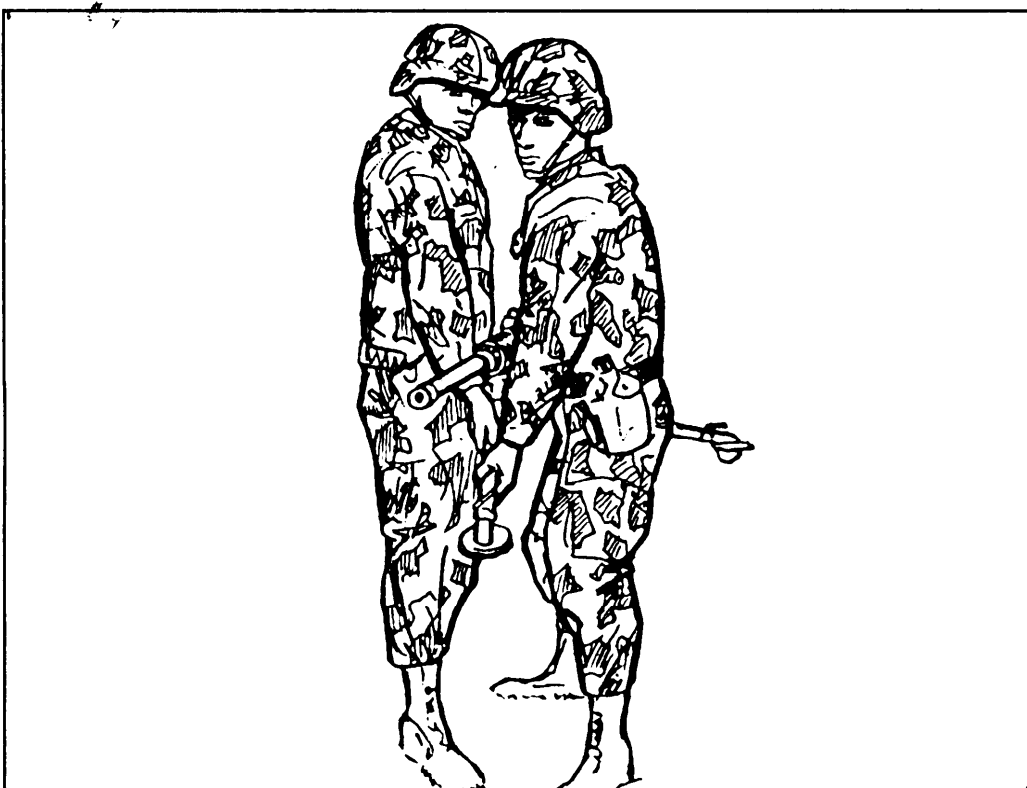

Figure 5-26. Two-man carry.
(2) *Two-man carry* With the gunner on the right and assistant gunner on the left, each grasps the front leg with his forward hand and a trail leg with the other hand, just above the traversing bar (Figure 5-26).